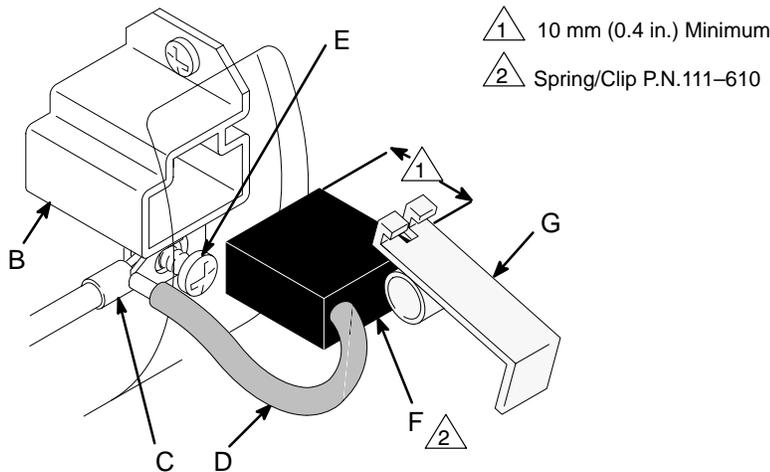

Fig. 16 01065
NOTE: Replace the brushes when they have worn to less than 10 mm. Refer to Fig. 16. Note that the brushes wear differently on each side of the motor, so check them both. Brush Repair Kit 235-727 is available.
2. Push in the spring clip (G) and release its hooks from the brush holder (B). Pull out the spring clip. See Fig. 16.
3. Loosen the brush lead terminal screw (E). Pull the brush lead away, but leave the motor lead terminal (C) in place. Remove and discard the brush (F). See Fig. 16.
6. Place a new brush (F) in the holder (B) so the lead is closer to the fan-end of the motor. Slide the terminal under the terminal screw (E) washer. Be sure the motor lead is still connected at the screw. Tighten the screw (E). See Fig. 16.